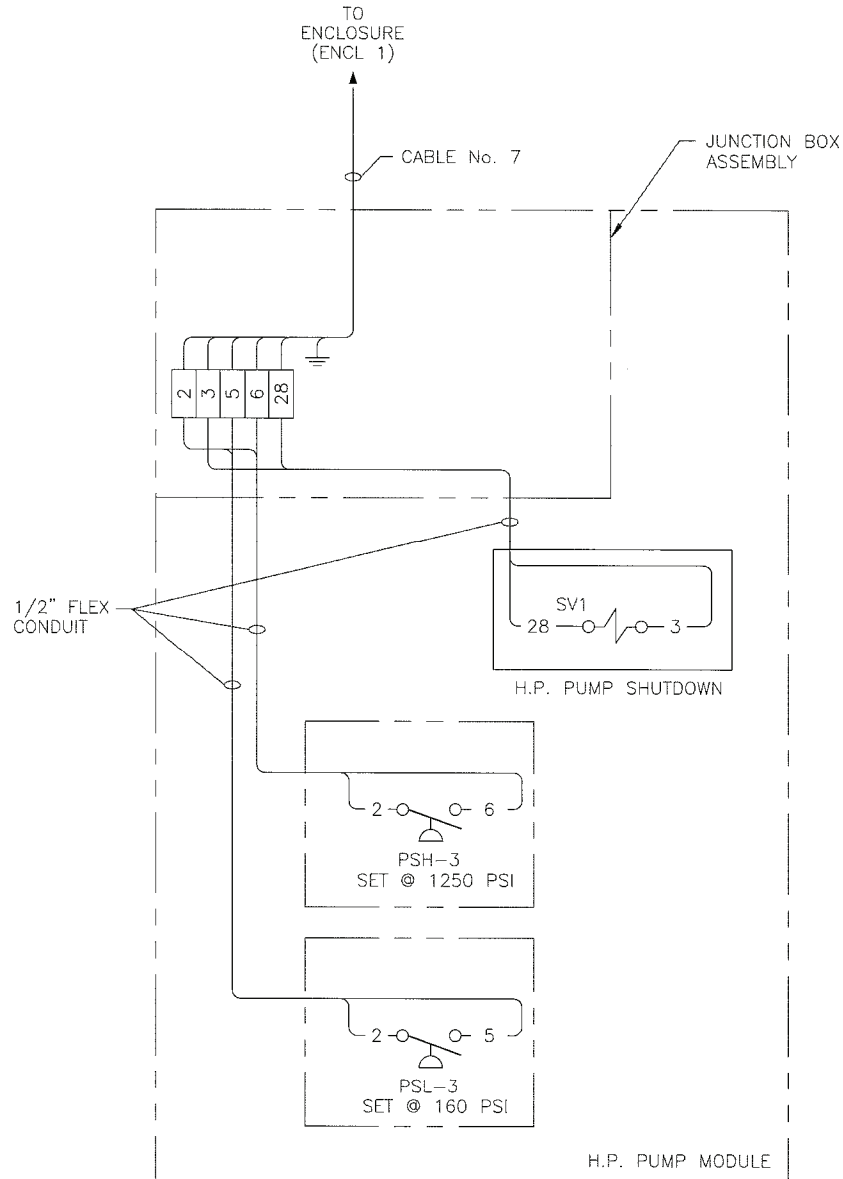

Figure 4. HP Module Wiring Diagram.
2. Position the junction box assembly on the module. Secure with four (4) ea machine screws, flat washers, and new lock nuts.
4. Connect wiring to terminals on terminal block. Reuse the wire number tags from old wires. Refer to Figure 4.